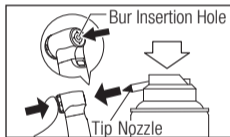

Fig. 16
- 2 Shake the can three or four times, then gently press in the push button to directly spray into the bur insertion hole (Fig. 16).